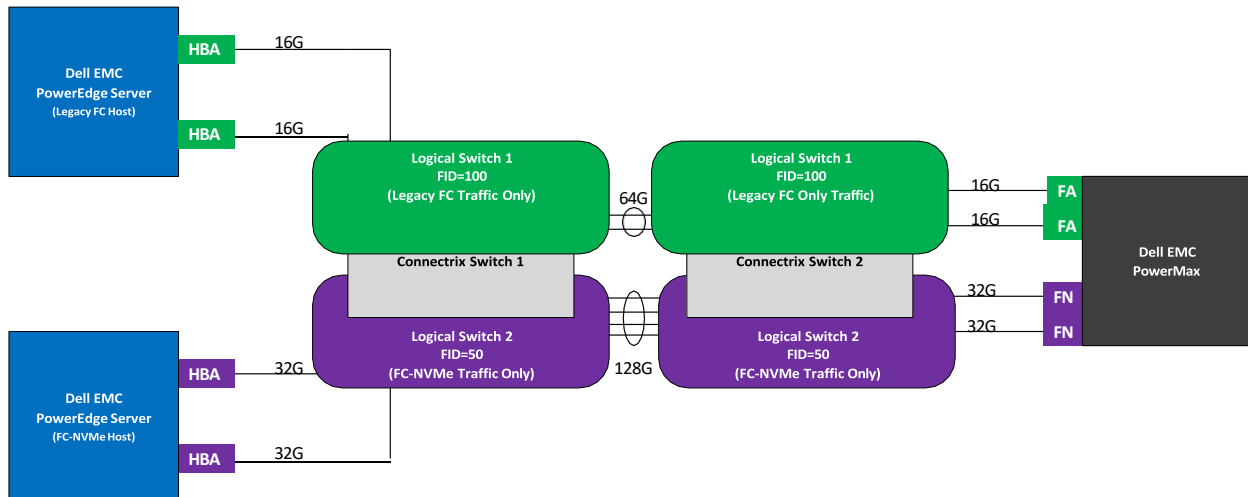

Figure 2
Figure 2 displays our target topology. We are rolling in a new NVMe/FC capable server as well as adding new Fibre Channel NVMe Adapters (FN) on an existing Dell PowerMax. In addition, you can see that we have increased our ISL count by providing dedicated ISL ports for NVMe/FC.